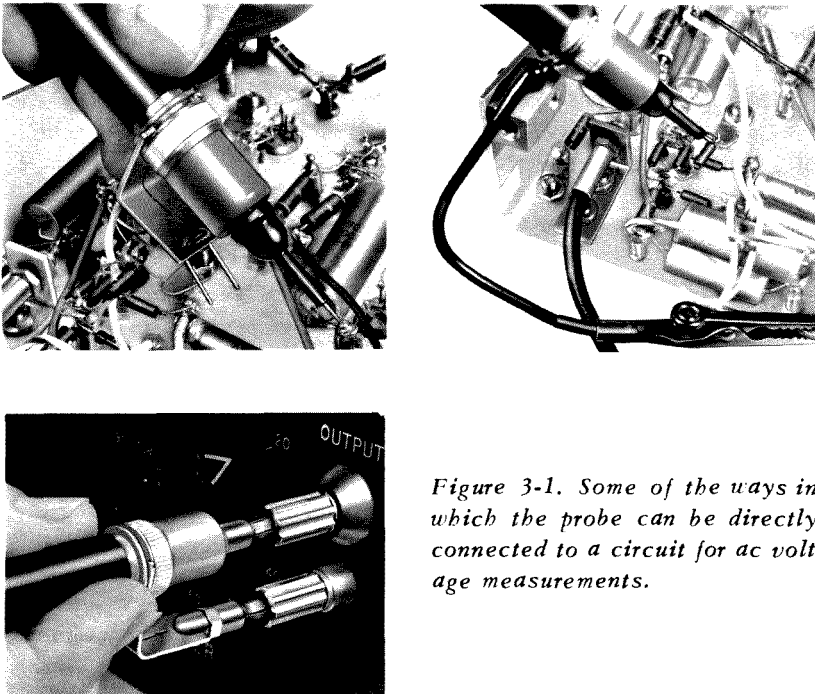

Figure 3-1. Some of the ways in which the probe can be directly connected to a circuit for ac voltage measurements.
3.2.2 PROBE ACCESSORIES. Several different ground-connection devices and probe-tip connectors are supplied with the instrument. Storage space for these is provided in the foam-plastic sandwich in the cover of the instrument. Select the most convenient of these devices for the high and ground connections to the probe. Some of the possible combinations are shown in use in Figure 3-1. Connect the shell of the probe to the electrical ground and the tip to the circuit point at which the voltage is to be measured.